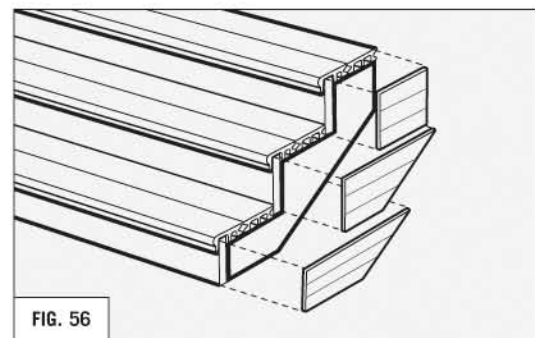

FIG. 56
- Cladding can also be cut into short lengths and installed horizontally or vertically to match the stringer outline. Consult local building codes for allowable spaces under stair railings. (REFER TO FIG. 56)